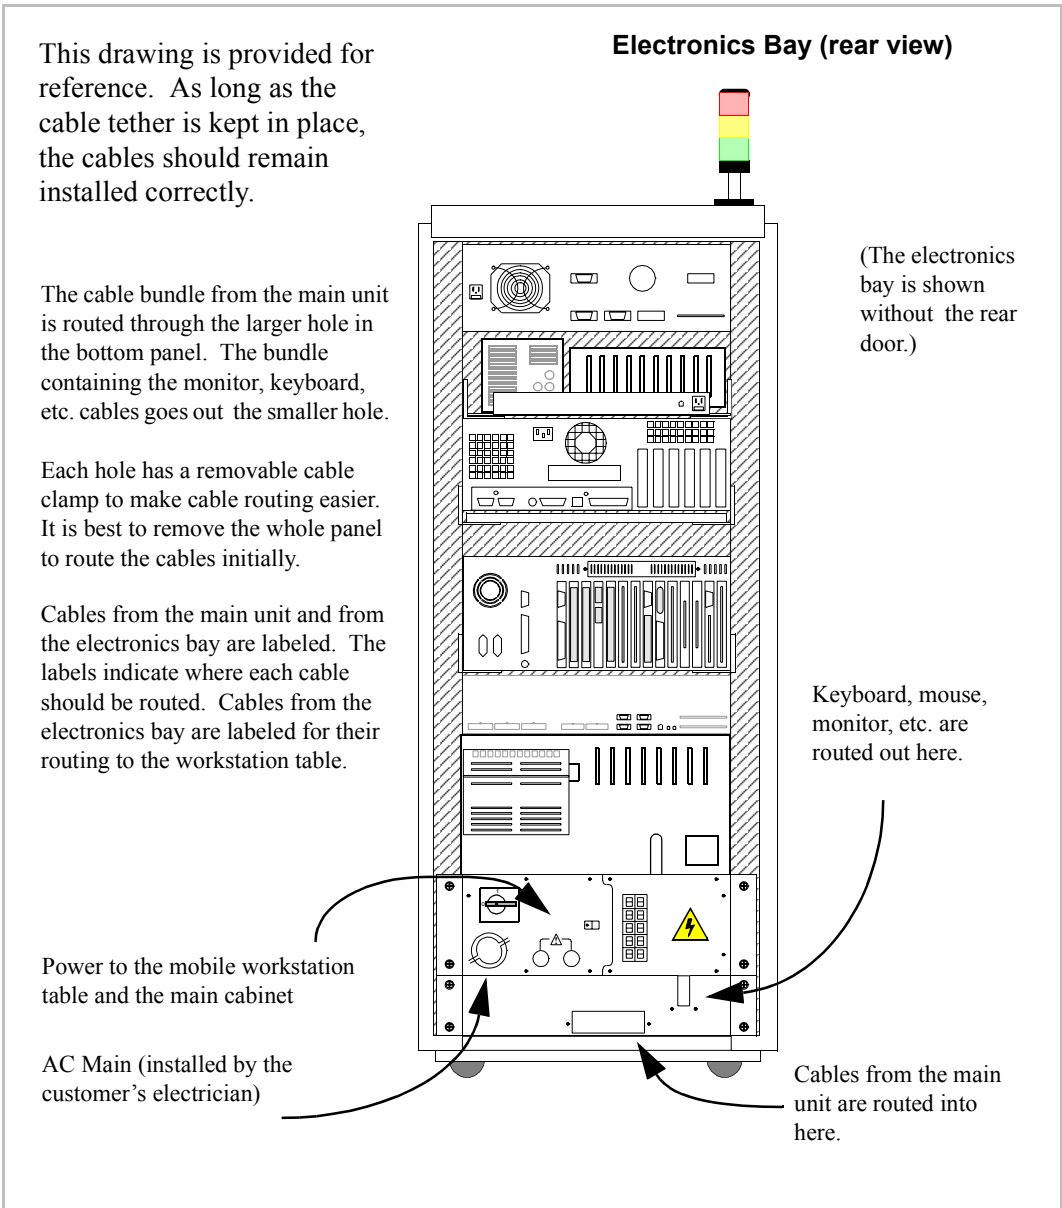
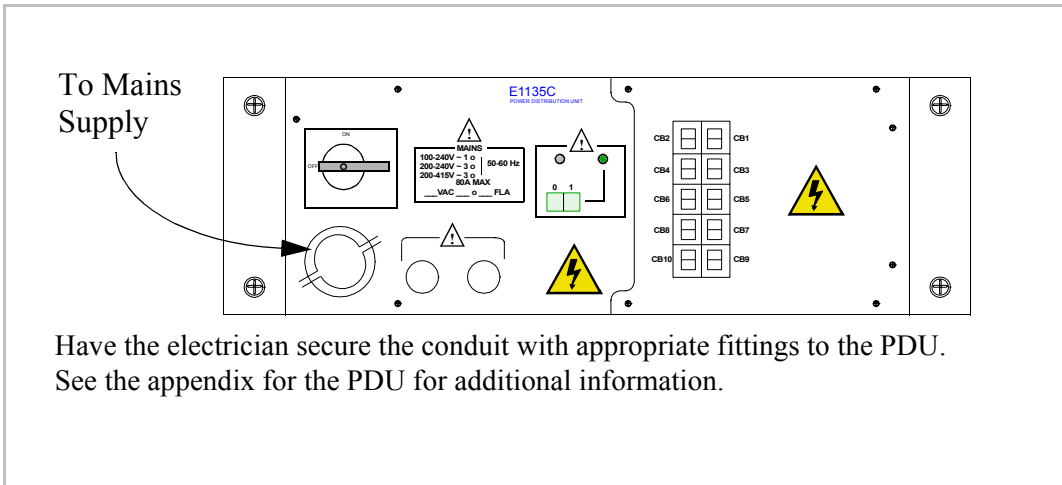

Figure 8 Cable Harness Routing
Figure 10 Power Distribution Unit
17. AC Main Hookup — Work with the customer electrician to provide main power installation to local code. For general service feed location, see Figure 8 on page 17 and Figure 10 on page 22. Normal requirements are: